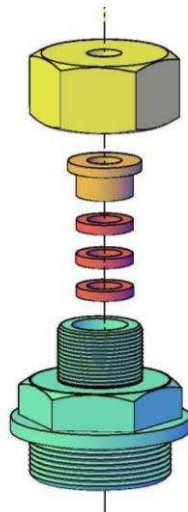

Figure 1a
- a) the lower part of the cap (item 5) as an outside view;
- b) the upper part of the cap (item 5), the packing rings (item 6), the gland (item 7) and the gland nut (item 8) as a sectioned view (see Figures 1a and 1b).